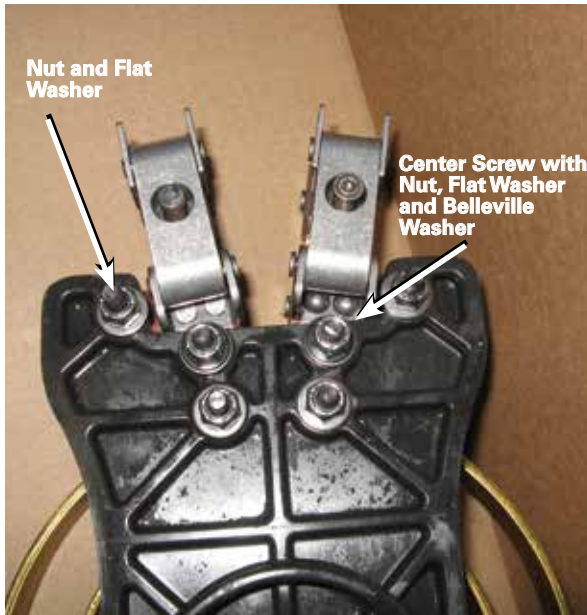

Figure 140. Removal of contacts.
12. The two replacement movable contact assemblies are identical; therefore, they can be installed in either position on the movable contact panel. Position one of the replacement movable contact assemblies between the contact ring and the movable contact panel and align the holes. Insert the three button head screws from the contact ring side of the assembly so the screw heads secure the contact ring in place. On the side opposite the contact ring, place a flat washer on all three screws. Place a Belleville washer on the center screw and thread a Nylok® nut onto all three screws. Tighten the Nylok® nuts to 65 to 75 in-lbs (7.3–8.5 Nm) using a 7/16" deep well socket wrench while holding the screw in place with a 5/32" hex wrench. Refer to Figures 140 and 141. Repeat this procedure for the other movable contact assembly.